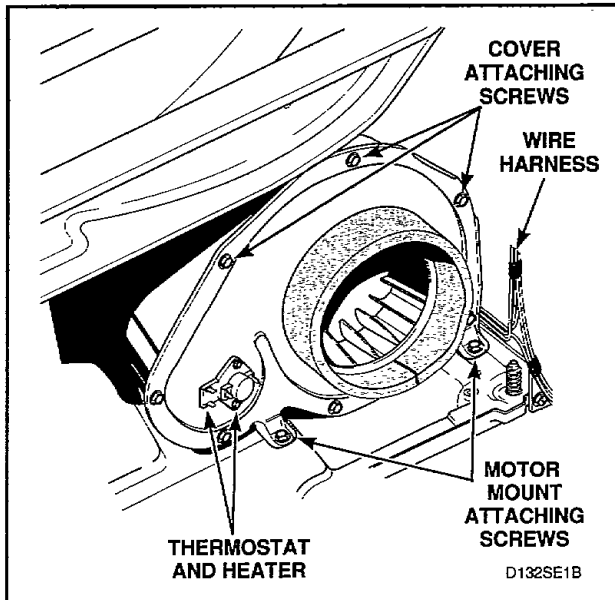
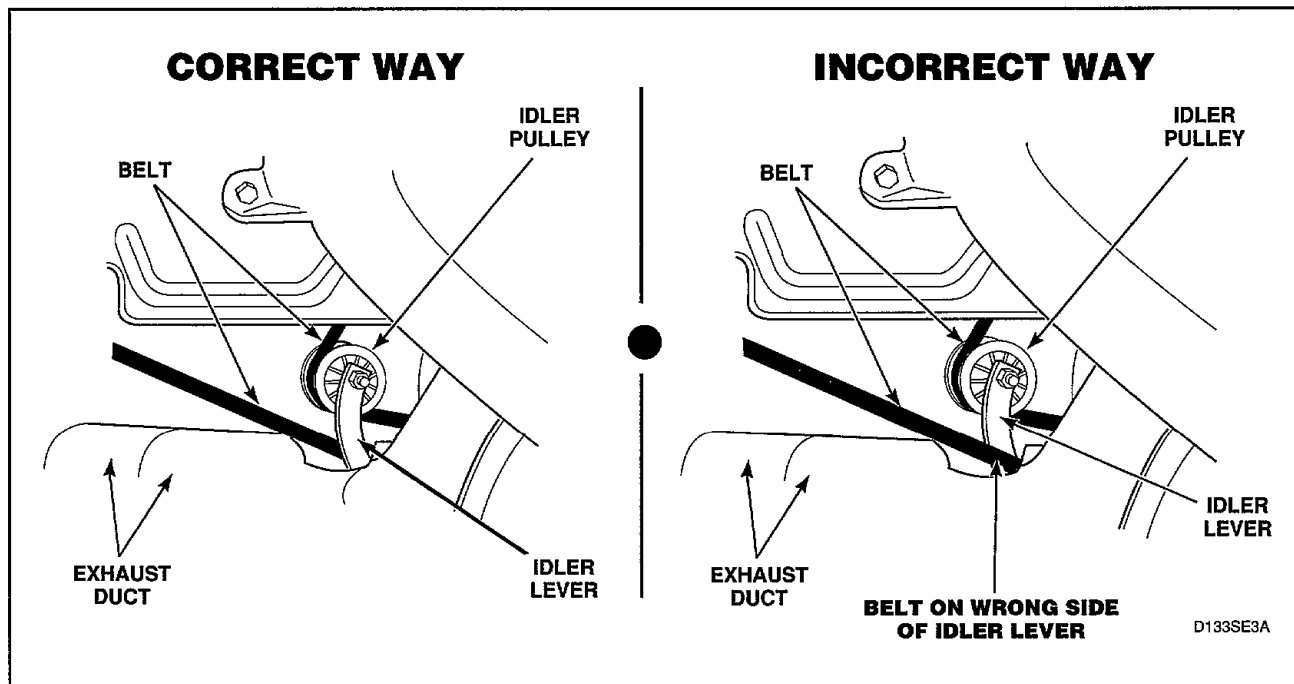
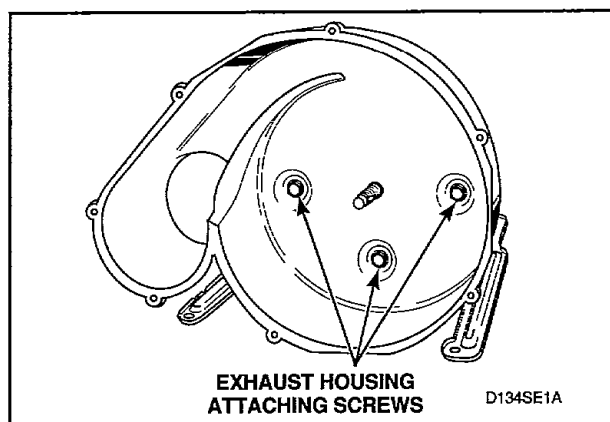

Figure 33
Figure 34
Figure 36
- Disconnect wires from thermostat and heater, *Figure 33*.
- f. Remove cylinder belt from idler and motor pulleys, *Figure 34*.
**NOTE:** When installing belt, be sure belt is properly installed on motor and idler pulleys, and is on the correct side of the idler lever, *Figure 34*. Belt must be positioned around cylinder approximately three inches ahead of the rear rib on cylinder, *Figure 42*, with the ribbed surface of the belt against the cylinder. After installing belt, manually rotate cylinder **counterclockwise** to check that belt is properly aligned.
**IMPORTANT:** When reinstalling motor and exhaust assembly, be sure wire harness on right side is clipped to motor mounting bracket and is routed along dryer base (between motor mounting bracket and right side of cabinet), *Figure 33*. Tab on rear of motor mounting bracket must be slid into slot in dryer base. Be sure the belt has been installed on the correct side of the idler lever, *Figure 34*.
- (1) Remove screws holding cover to housing, *Figure 33*.
- (2) Hold motor pulley securely and unthread impeller from motor shaft (right hand thread). Use a 7/8 inch, 6 point socket to aid in the removal of the impeller.
- (3) Remove three screws holding the exhaust housing to the motor mounting bracket, *Figure 36*.
- Disengage belt from motor and idler pulleys, *Figure 34*.
**NOTE:** When installing belt, be sure belt is properly installed on motor and idler pulleys, and is on the correct side of the idler lever, *Figure 34*. Belt must be positioned around cylinder approximately three inches ahead of the rear rib on cylinder with the ribbed surface of the belt against the cylinder. After installing belt, manually rotate cylinder **counterclockwise** to check that belt is properly aligned.